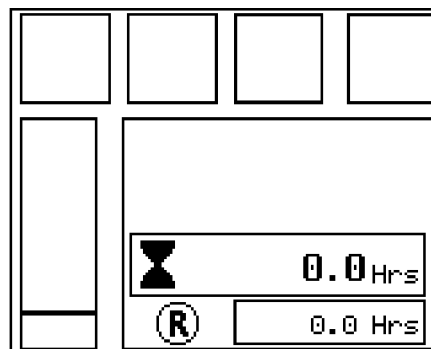

Fig. 3-8 Main screen
- ↪ The symbol ® appears in the S1 field on the main screen (see Fig. 3-8)